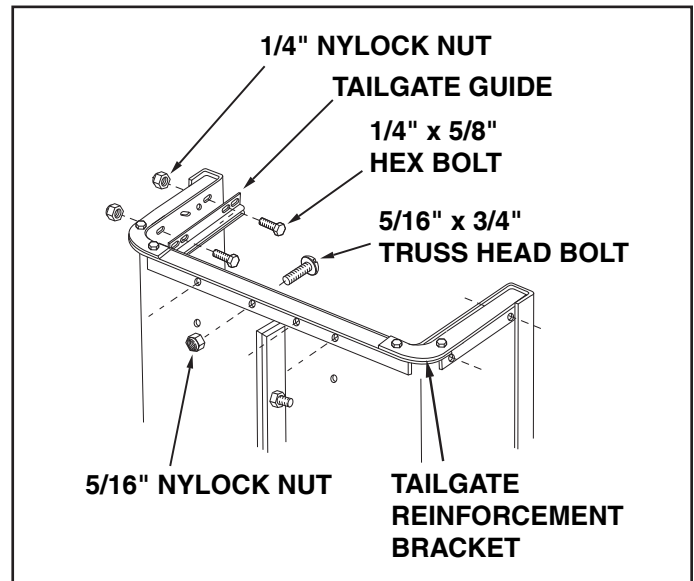

FIGURE 3
5. Position the tailgate reinforcement bracket on outside of cart as shown in figure 3. Assemble to the bottom of the cart body using four 5/16" x 3/4" truss head bolts and 5/16" nylock nuts. **Do not tighten.** See figure 3.
6. Position the tailgate guides on the inside of the cart bodies with guide channels to the front as shown in figure 3. Assemble using four 1/4" x 5/8" hex bolts and 1/4" nylock nuts. **Do not tighten.**